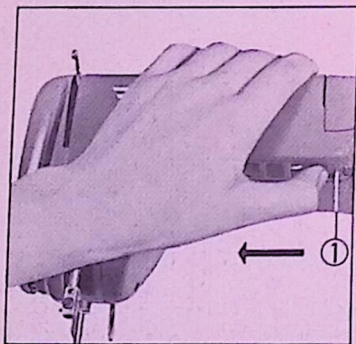

Fig. 5
Access to the light is obtained by pressing with the thumb against the first rib (1) of the grid (see arrow, Fig. 5). Lower the grid.